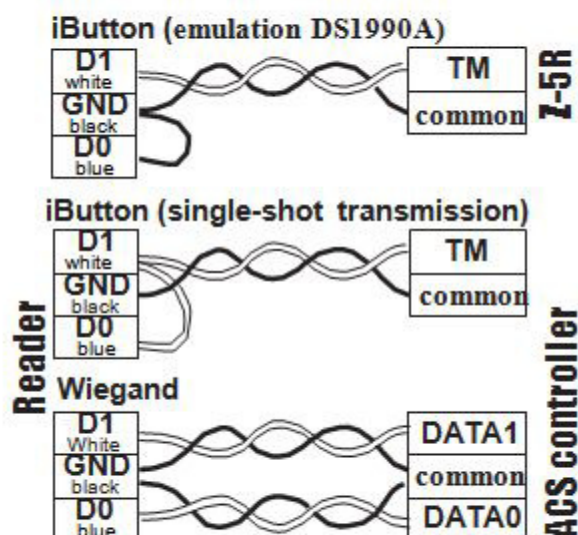

Fig.3 Selection of the transmission protocol.
- Connect the wires to the reader, in accordance with Fig. 2 and Fig. 3. When the power is connected, the red LED lights up.
In working condition, the red LED is on, signaling the presence of power. When the PROXIMITY keyfob is inserted in the field of action, the keyfob identification number is read. Then the read identification number is transmitted to the controller via the DallasTouchMemory (iButton) or Wiegand26 protocol (depending on the choice of the transmission protocol, Fig. 3). When the keychain number is read and its code is transmitted, the red LED flashes for 1 second.